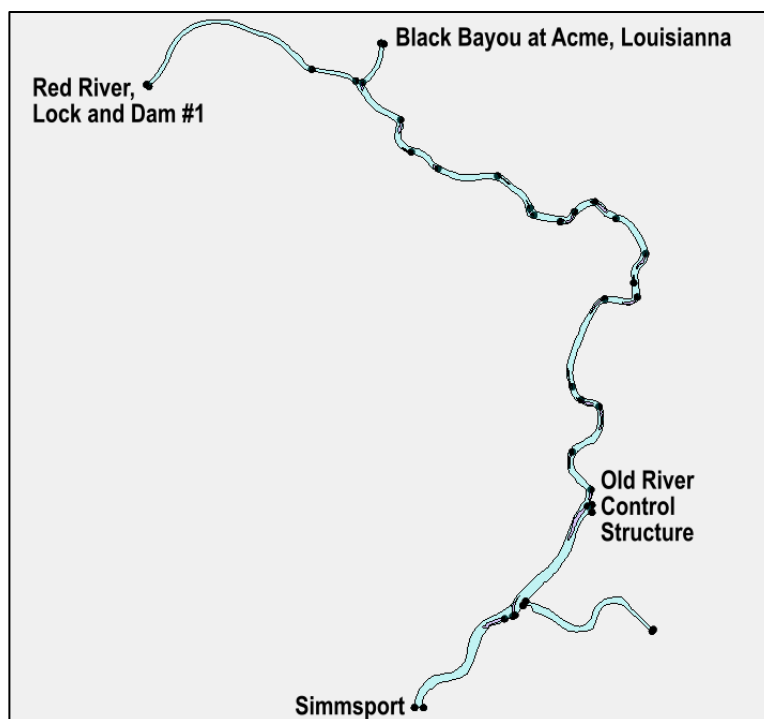

Figure 2: Boundary Condition arcs with locations labeled
7. Navigate to the label Old River Control Structure shown in Figure 2, then using the **Select Feature Arc**  tool, select the closest arc.